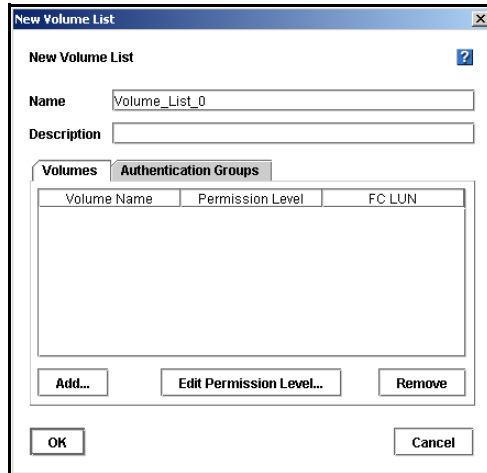

Figure 205. Creating a New Volume List
The New Volume List window opens, shown in Figure 205.
- Select the Volumes tab, shown in Figure 205.